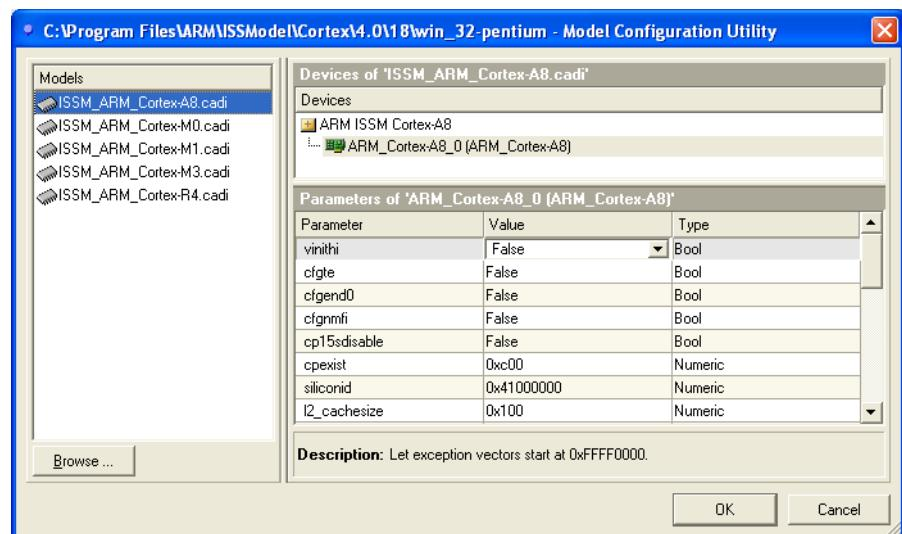

Figure 3-5 Model Configuration Utility dialog box (ISSM)
3. Click **Add** for the Model Library Debug Interface. The Model Configuration Utility dialog box is displayed. Figure 3-5 shows an example: